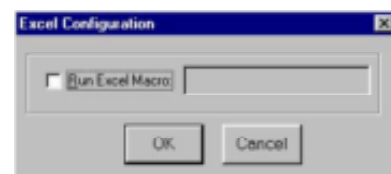

Figure 3. Excel Configuration Screen
3. Click on the button to the right of the MS Excel in the Spreadsheet Interface Software start-up screen. The "EXCEL configuration" screen will appear (Figure 3). Check the "Run Excel Macro" box, and enter the name of the macro.